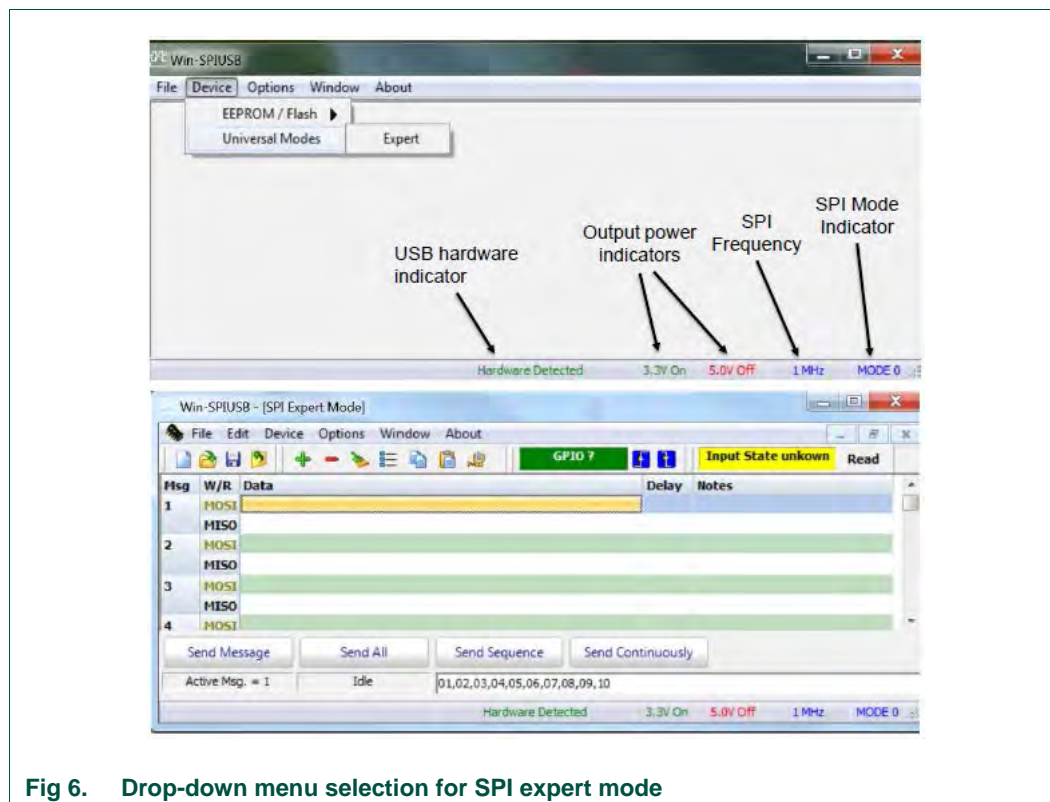

Fig 6. Drop-down menu selection for SPI expert mode
The PCA9745B is controlled by WIN-SPIUSB GUI in Expert mode as shown in Fig 6.
Connect the hardware as described in Section 4.3. All jumpers are in default setting for PCA9745B demo board. When you have correctly installed the software and the demonstration board hardware is connected and recognized by the computer, start the Win-SPIUSB software. As shown in the Fig 6, when the demonstration board hardware is correctly connected to the USB port and the computer recognizes it, the message “Hardware Detected” is displayed on the bottom of the window.
1. From the ‘Device’ drop-down menus select ‘Universal Modes’, and from the subsequent drop-down menu select ‘Expert Mode’ as shown in Fig 6.